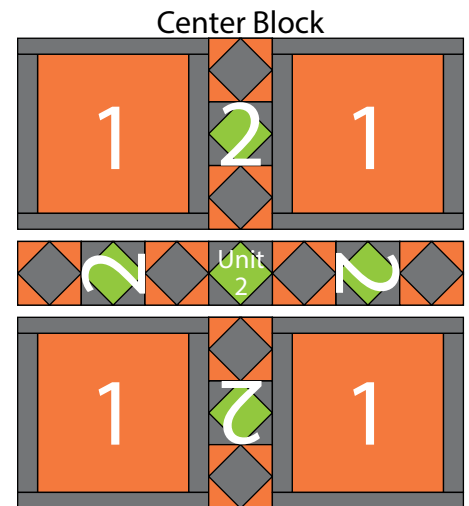

Fig. 9
7. Sew (1) Block One square to each side of (1) Block Two strip to make the top row. Repeat to make the bottom row. Sew (1) Block Two strip to each side of (1) Unit 2 square to make the middle row. Sew together the (3) rows lengthwise to make the 28 ½" x 28 ½" Center Block (Fig. 9).